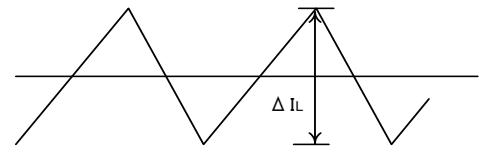

Fig.33 Inductor current
(3) Output voltage setting
The internal reference voltage of the ERROR AMP is 1.0 V. Output voltage is obtained by Equation (4) of Fig. 33, but it should be designed taking about 50 Ω, an error of NMOS ON resistance of SWOUT into consideration.